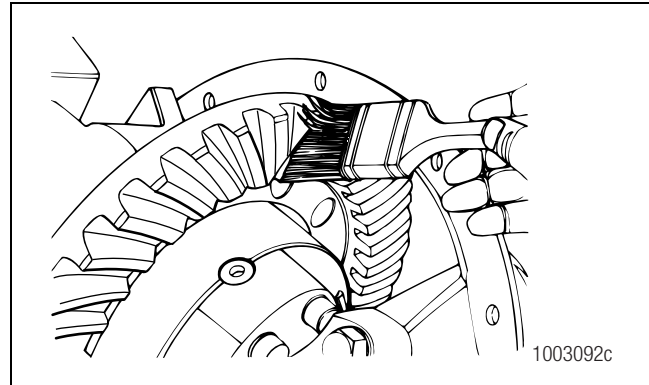

Figure 5.50
2. Apply a marking compound onto approximately 12 gear teeth of the ring gear. Rotate the ring gear so that the 12 gear teeth are next to the drive pinion. Figure 5.50.